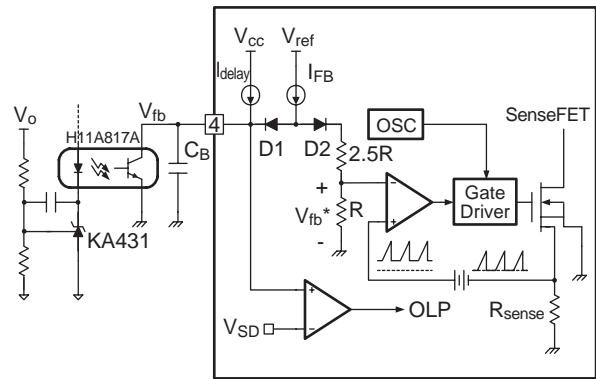

Figure 11. Pulse Width Modulation (PWM) Circuit
3. Feedback Control: The FSCQ-Series employs current mode control, as shown in Figure 11. An optocoupler (such as Fairchild's H11A817A) and shunt regulator (such as Fairchild's KA431) are typically used to implement the feedback network. Comparing the feedback voltage with the voltage across the R_{sense} resistor plus an offset voltage makes it possible to control the switching duty cycle. When the reference pin voltage of the KA431 exceeds the internal reference voltage of 2.5V, the H11A817A LED current increases, pulling down the feedback voltage and reducing the duty cycle. This event typically happens when the input voltage is increased or the output load is decreased.
3.1 Pulse-by-Pulse Current Limit: Because current mode control is employed, the peak current through the SenseFET is limited by the inverting input of the PWM comparator (V_{fb}^*) as shown in Figure 11. The feedback current (I_{FB}) and internal resistors are designed so that the maximum cathode voltage of diode D_2 is about 2.8V, which occurs when all I_{FB} flows through the internal resistors. Since D_1 is blocked when the feedback voltage (V_{fb}) exceeds 2.8V, the maximum voltage of the cathode